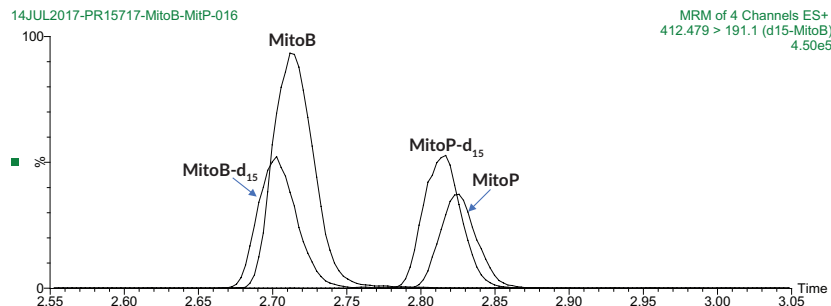

Figure 1. Extracted mass chromatogram of MitoB-d₁₅, MitoB, MitoP-d₁₅, and MitoP, obtained by LC-MS/MS analysis of HepG2 cells
2. With the HPLC method set up and equilibrated, inject the MitoP/MitoB high calibration standard as a system suitability standard to ensure that the baseline of the LC-MS/MS trace is stable and that the LC-MS/MS system is responding appropriately to the compounds. MitoB and MitoP typically elute at approximately 9-11 minutes, with the peaks overlapping but with MitoB slightly before MitoP. Typical experimental chromatograms produced by LC-MS/MS analysis are shown in Figure 1, below.